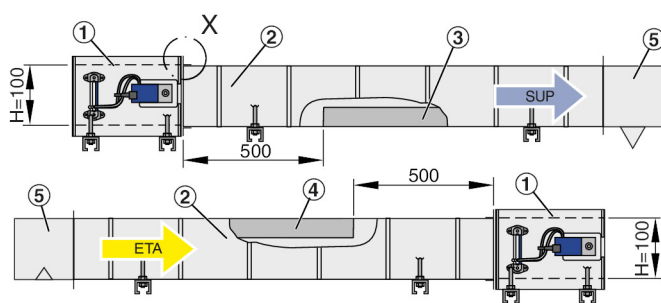

Fig. 26: Installation of sound attenuator TX H = 4"
- Secondary silencer TX can be installed directly upstream/downstream of the volume flow controller, non-active section to the volume flow controller, Fig. 26.